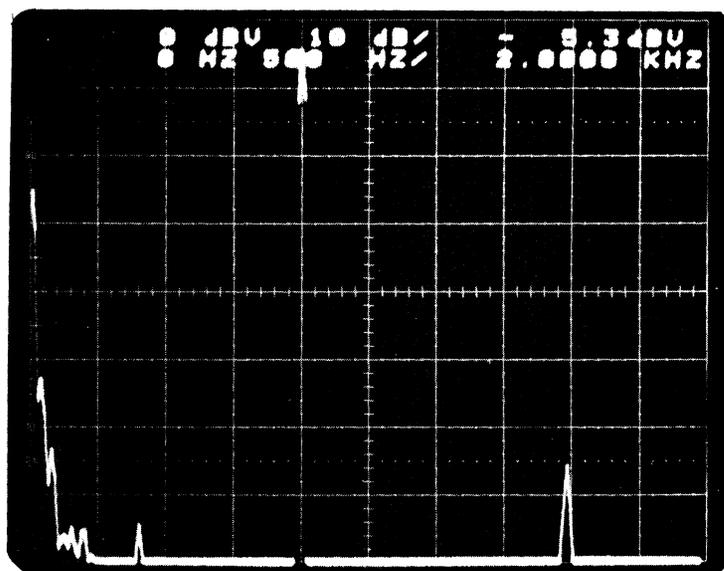

Fig. 3-6 Spectrum of Test Signal over the 0 - 5 KHz Span
- f. To verify that other frequency spans are performing properly, rotate RESOLUTION - (SPAN - Hz) to 25 (5 K), set FREQ SCALE to LIN position, and BACKGROUND SELECT to BLANK. A correct display is shown in Fig. 3-6.